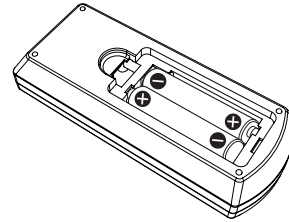

Fig. 2
- 2) Insert batteries and close the cover (Insert the "⊖" side first.). (Fig. 2)